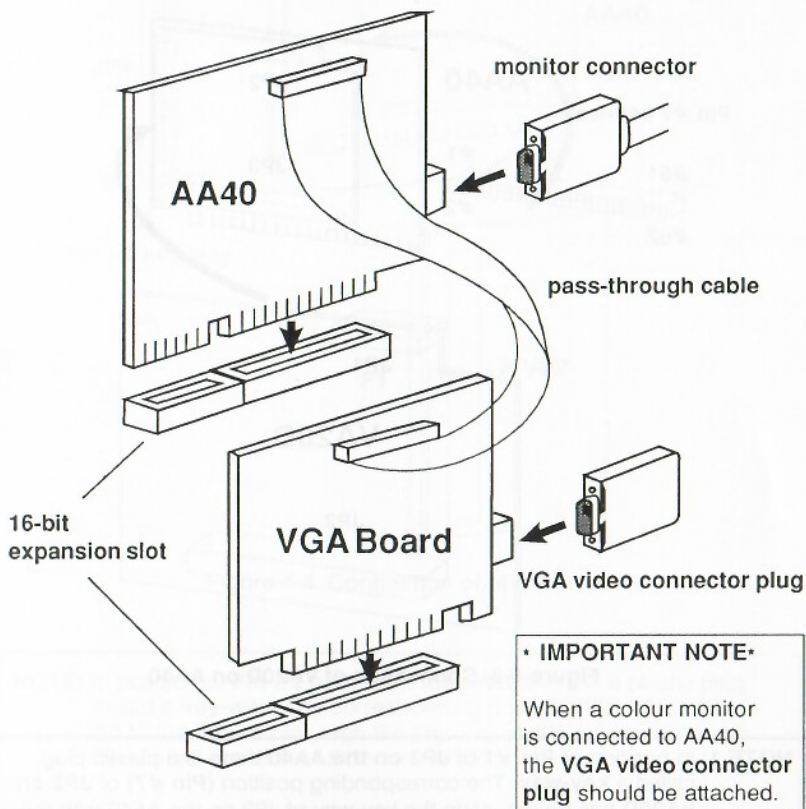

Figure 4-2 VGA pass-through connection of AA40 with VGA board
**Step 1.** Install the VGA board in a expansion slot in the same way as the AA40 installation. Connect the VGA board pass-through connector to the AA40 pass-through connector with VGA pass-through cable as follows (Refer to Figure 4-2.):